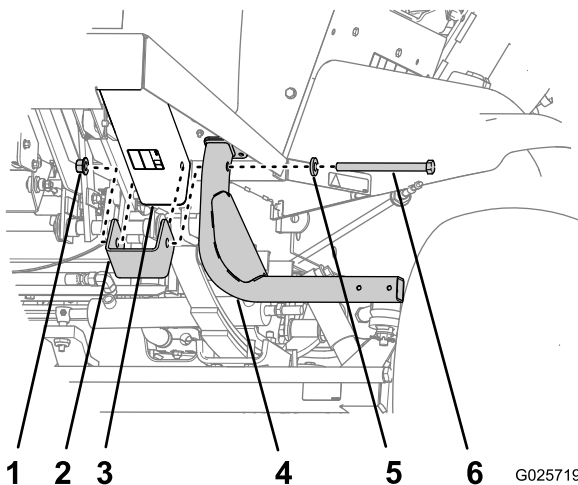

Figure 2
1. At the front of the machine, align the holes in the spacer bracket with the holes in the front frame tube (Figure 2).
2. Align the holes in the step mount with the holes in the spacer bracket and the frame tube (Figure 2).
3. Secure the step mount and the spacer bracket to the frame tube with a hex-head bolt (1/2 x 6 inch), lock nut, and washer (Figure 2).